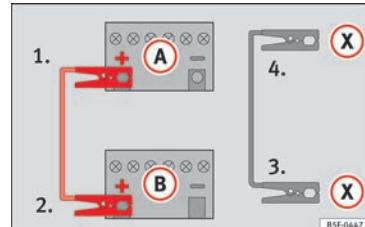

Fig. 78 Diagram of connections for vehicles with Start Stop system
- For vehicles with Start-Stop system: connect one end of the *black* jump lead (X) to a suitable ground terminal, to a solid piece of metal in the engine block, or to the engine block itself »» Fig. 78.
- Connect the other end of the *black* jump lead (X) to a solid metal component bolted to the engine block or to the engine block itself of the vehicle with the flat battery. Do not connect it to a point near the battery (A).